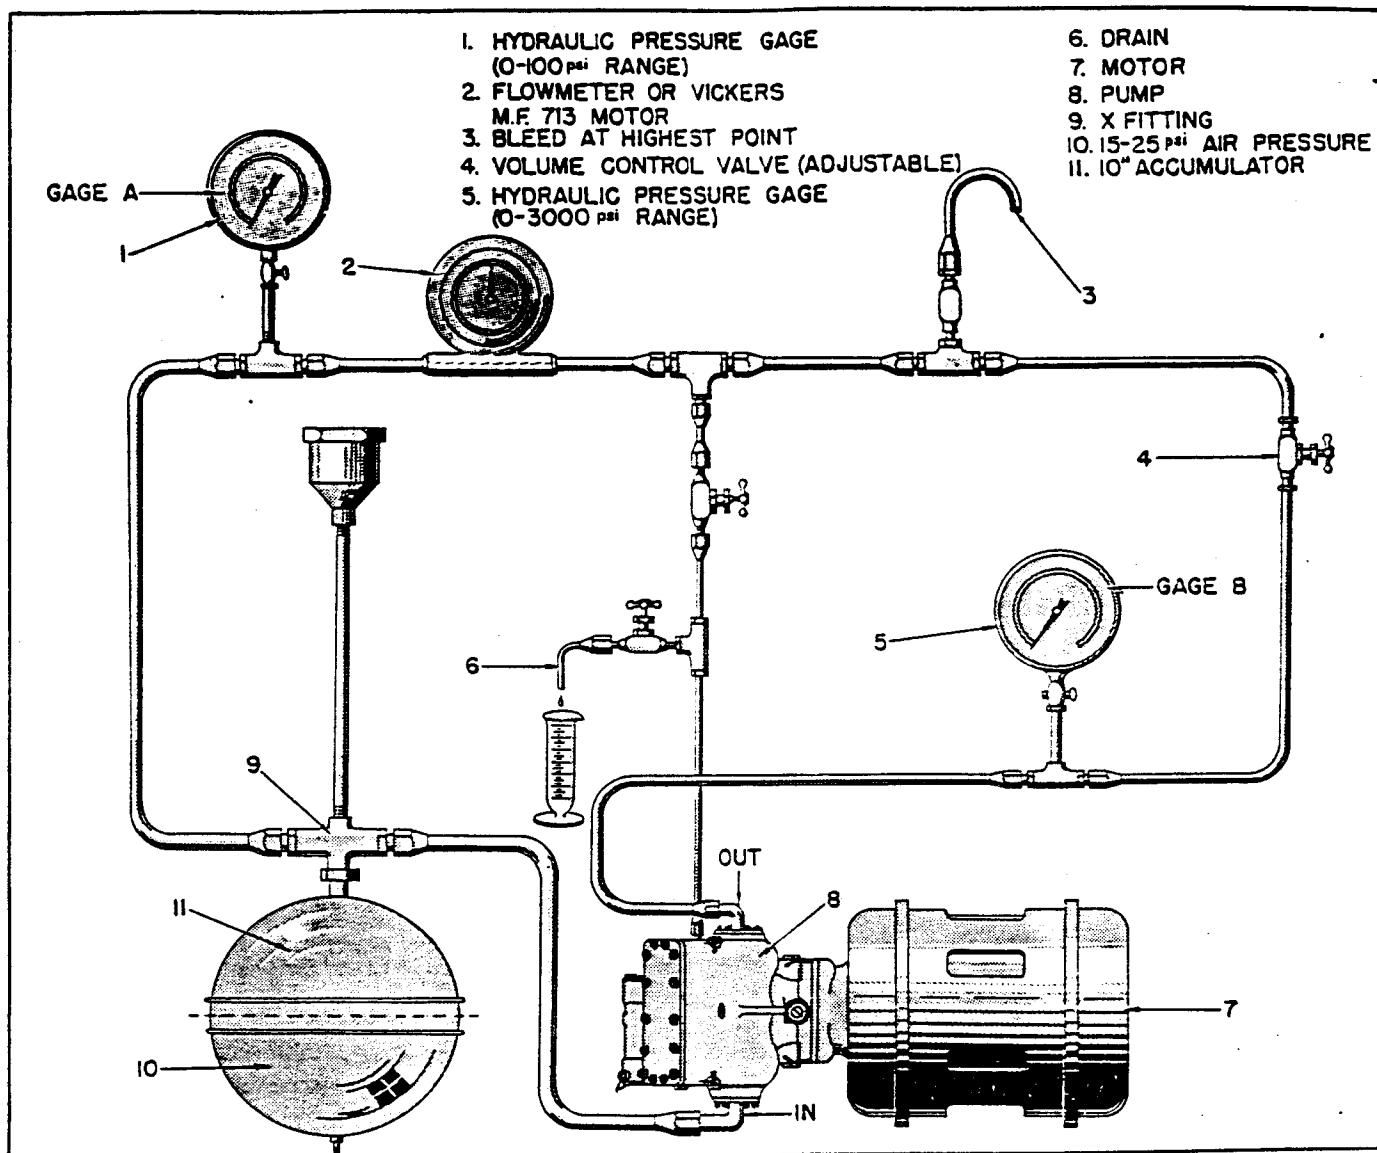

Figure 9. Hydraulic Pump Test Set-Up
a. A simple test set-up that meets these requirements (see figure 9) includes a motor, a 10-inch accumulator fitted with an "X" fitting and a capped filler pipe, a volume control valve, a flowmeter (or a Vickers MF-713 hydraulic motor), two hydraulic pressure gages, and an air vent.
g. Close the vent and charge the accumulator with 25 psi air pressure. This pressure will be shown in gage "A." (See figure 9.) Continue to rotate the motor and pump by hand a few times, cracking the vent line once in a while until a solid flow of fluid is ejected from the vent line. Then close the vent.
3. RUN-IN.- Run the pump for approximately 15 minutes at about 3600 rpm at not more than 200 psi outlet pressure, as regulated by the volume control valve installed in the outlet line and shown by gage "B" (see figure 9).
a. Close the volume control valve in the outlet line. Loosen the lock screw at the pressure control adjusting screw. Then turn the pressure control adjusting screw (figure 9) in to raise or out to lower until gage "B" indicates the correct cut-out pressure. Tighten the locking screw at the adjusting screw.
6. INTERNAL LEAKAGE.- Open the shut-off valve "C" and close valve "D." (See figure 9.) Operate the pump at approximately 3600 rpm, against maximum pressure. The total leakage flowing out of the open drain connection must not exceed 800 cc's per minute.